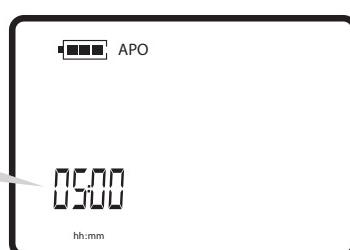

Figure 9
- 2) Press **SET** to advance to Test Time (Pressure) Set Screen (FIG. 9).